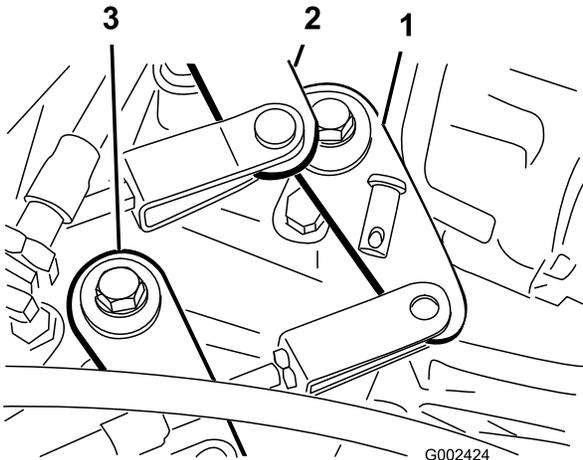

Figure 43
2. Remove the clevis pins securing the shift cables to the transaxle shift arms (Figure 43).
1. Remove the clevis pin securing the High-Low cable to the transaxle (Figure 43).